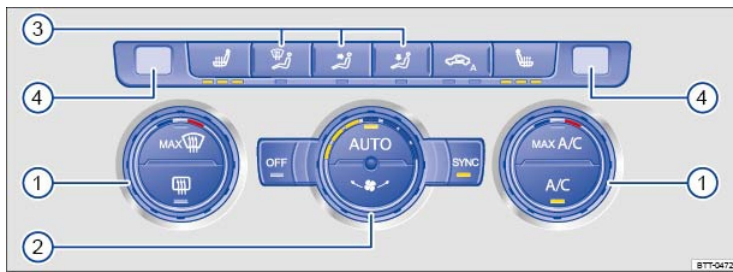

Fig. 154 In the center console: Climatronic controls.
Button / Knob	More information ⇒ Fig. 154 .
① ■ ... ■	Temperature: Left and right sides of the vehicle can be set to different temperatures. Turn the knob to set the temperature.
② ☪	Fan: The speed of the fan is automatically adjusted depending on the vehicle speed in order to help prevent unnecessary noise. The fan can also be adjusted manually.
③	Air distribution: Air flow is automatically adjusted to a comfortable level. It can also be manually adjusted with buttons ⇒ Fig. 154 ③.
④	Left-side and right-side digital temperature displays.